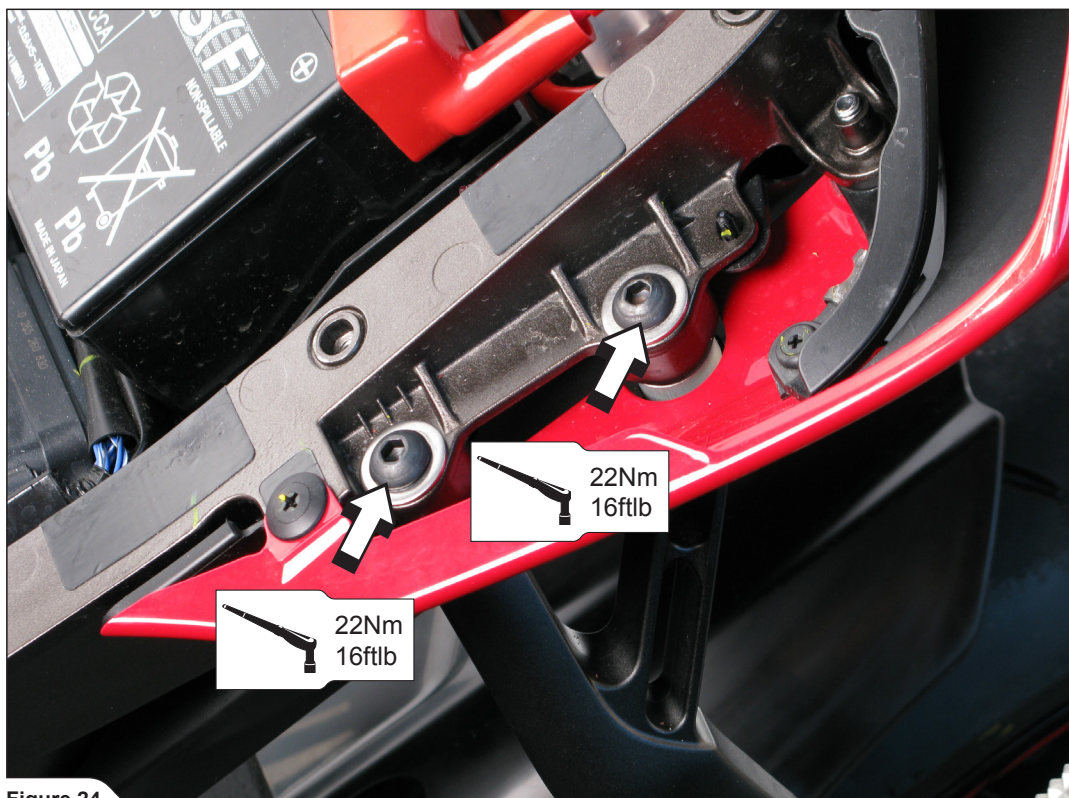

Figure 24
4. **With passenger footrest:** tighten passenger footrest brackets to the specified torque, on both sides of the motorcycle (**Figure 24**).